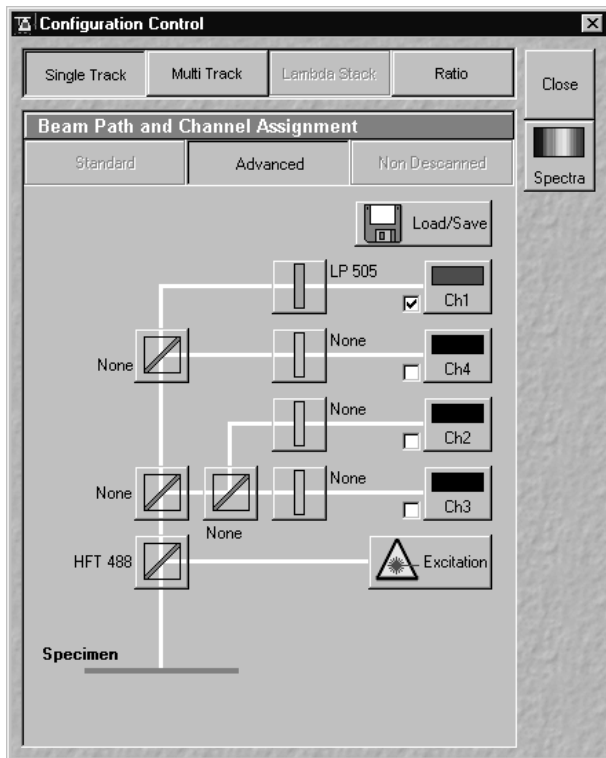

Fig. 5-393 LSM beampath for imaging the test layer of Rh6G
- Set the following LSM parameters in the **Configuration Control** (see Fig. 5-393):